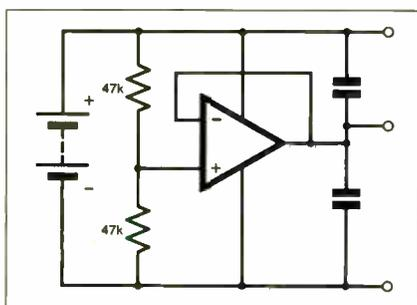
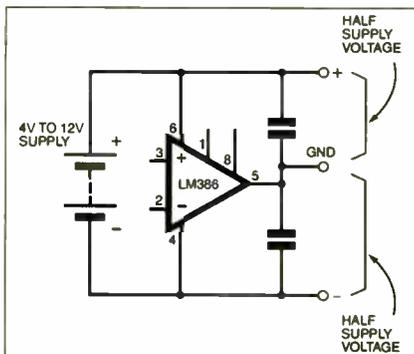

Fig.4. Splitter using an op.amp
Fig.5. Splitter using an LM386
**T**HE commonly used method to split a single supply is to use an op.amp and two resistors, as shown in Fig.4. Using an LM386 audio i.c. instead of the op.amp, the resistors are not required, see Fig.5. This saves on board space. Of 20 LM386s tried, 15 of them split the voltage to within 5%. The worst was 8.4%. This was sufficient for my application and would probably be so for most applications.